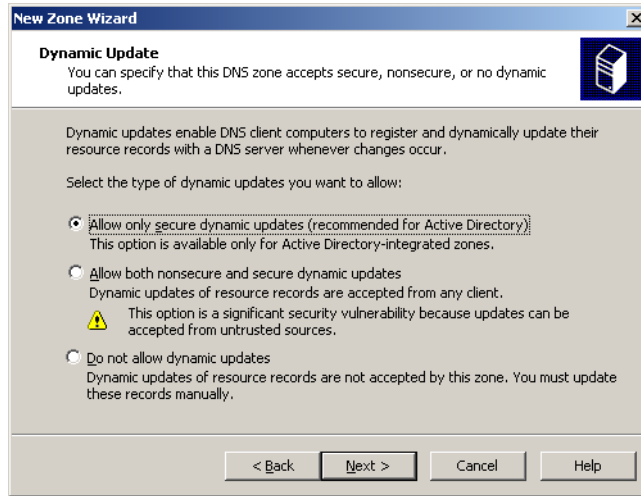

Figure D-52 Dynamic update dialog
11. Select the **Allow only secure dynamic updates** radio button shown in figure D-52. Click the **Next** button to continue.